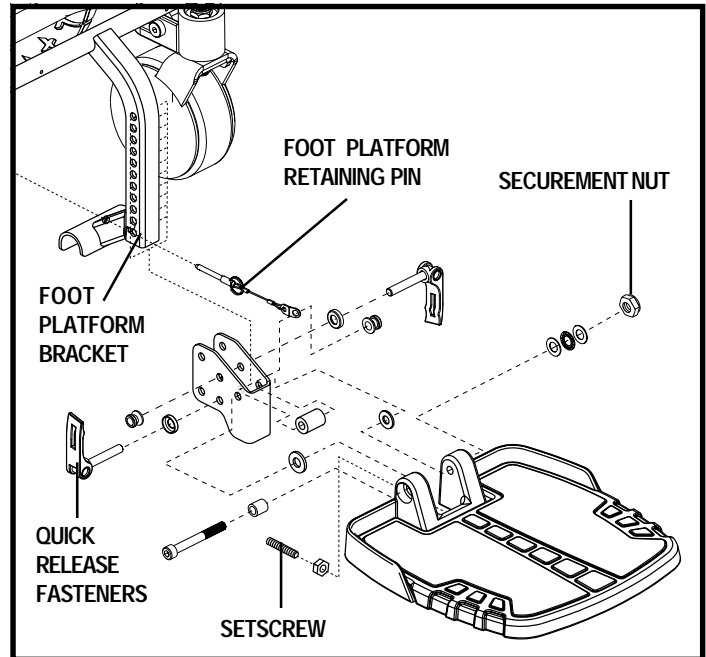
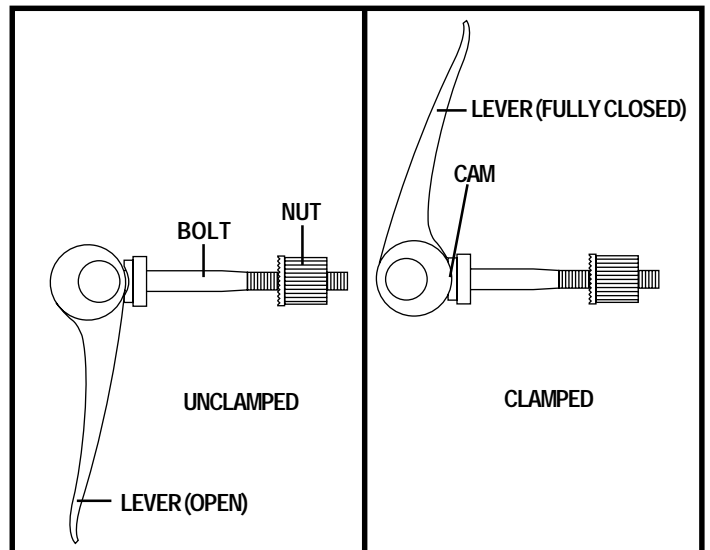

Figure 19. Foot Platform Adjustment
Figure 22. Quick Release Fastener Operation
1. Remove the quick release fasteners from the foot platform bracket. See figure 19.
Quick Release Fasteners: The foot platform is attached to the power base with two quick release fasteners. See figure 19. Each quick release fastener consists of a bolt, a lever, and a nut. See figure 22. The lever has a cam on the end that allows it to clamp into place. The quick release fastener has two states: clamped and unclamped. When the lever is open, the quick release fastener is unclamped. When the lever is closed, the quick release fastener is clamped.